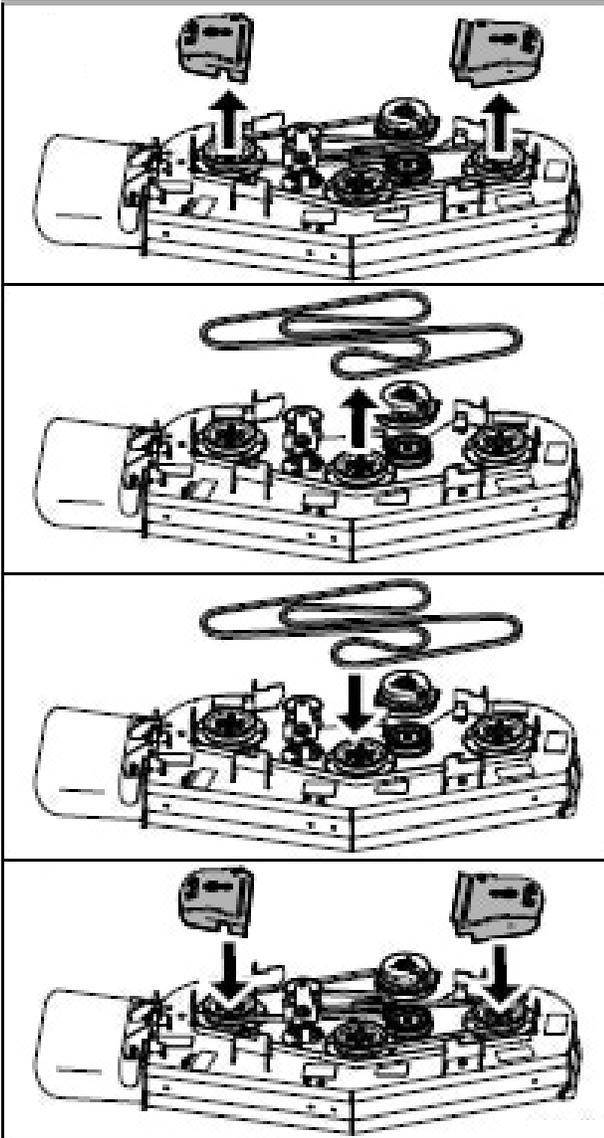

Figure 38
16. Route the belt through pulleys as shown on diagram (Figure 38).